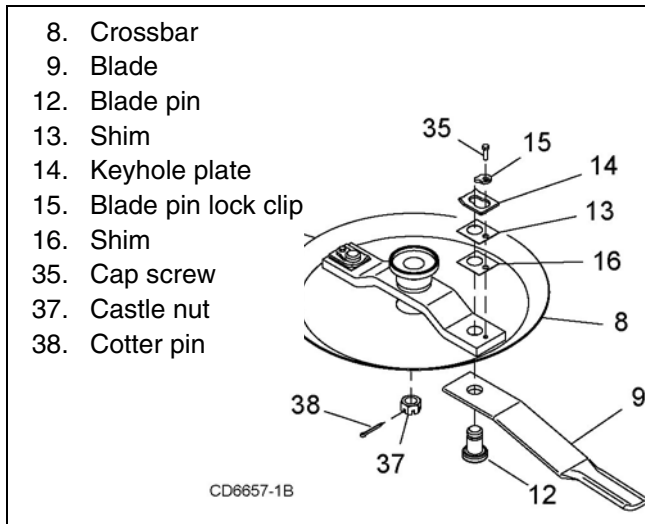

Figure 22. Blade Removal
2. To make crossbar removal easier, remove blades as shown in Figure 22.
2. Install crossbar (8), Figure 22, on splined shaft. Install castle nut (37) and cotter pin (38). Torque nut to 450 lbs-ft.